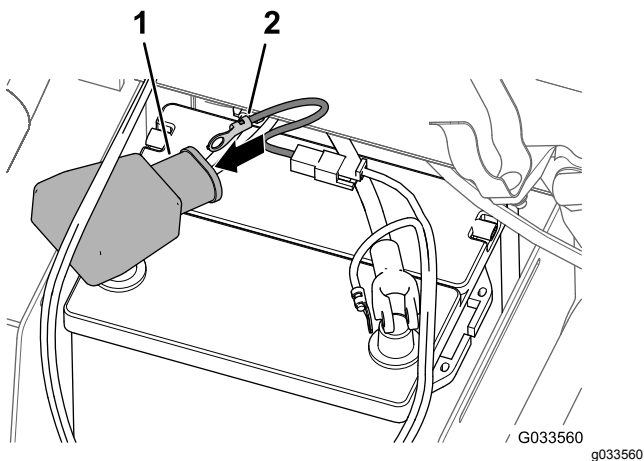

Figure 29
4. Align the ring terminal of the fusible link (sprayer wire harness) through the wide battery cover as shown in Figure 29.